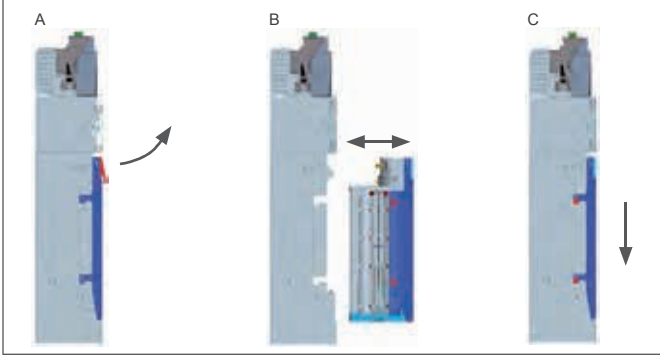

Fig. 2: Removing and reinstalling coin cassette
- 1 Remove cassette by pulling cassette latch followed by an up and out motion. The cassette comes straight out (Fig. 2, A/B).
- 3 Reinsert cassette straight in and down, until it clicks in position (Fig. 2, B/C). The currenza c2 is ready to operate. However, performing a test vend is recommended.